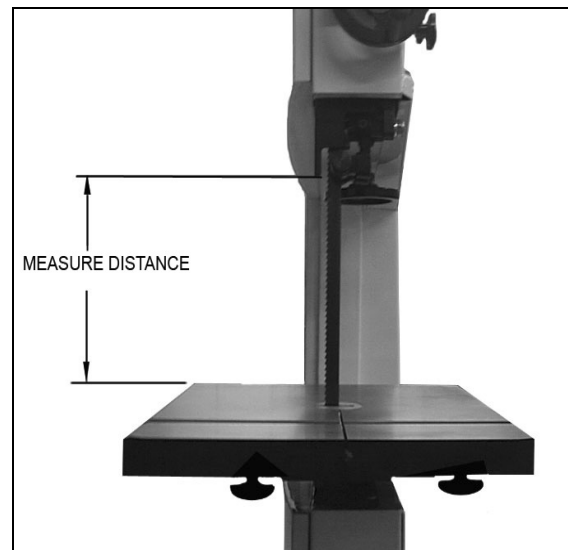

Figure 14
3. Measure from the table top to the bottom of the blade guides, Figure 14.